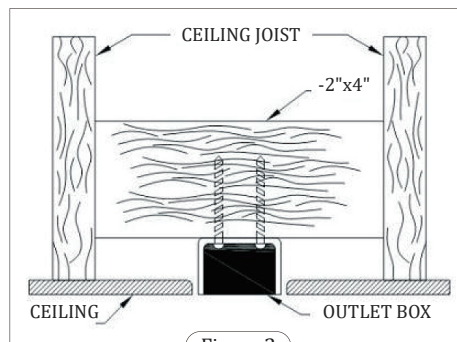

Figure 2
High-profile use (Figure 2)
- Slide the code button to the same position as the remote control setting (Fig. 2).